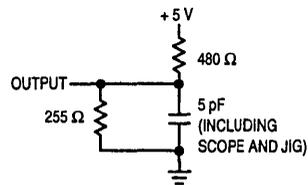

Figure 1B
5. Transition is measured ± 500 mV from steady-state voltage with load of Figure 1B. This parameter is sampled and not 100% tested. At any given voltage and temperature, t_{E1HQZ} max is less than t_{E1LQX} min, t_{E2LQZ} max is less than t_{E2HQX} min, and t_{GHQZ} max is less than t_{GLQX} min for a given device and from device to device.
6. Transition is measured ± 500 mV from steady-state voltage with load of Figure 1B. This parameter is sampled and not 100% tested. At any given voltage and temperature, t_{E1LQX} max is less than t_{E1LQX} min, t_{E2LQZ} max is less than t_{E2HQX} min, and t_{GHQZ} max is less than t_{GLQX} min for a given device and from device to device.